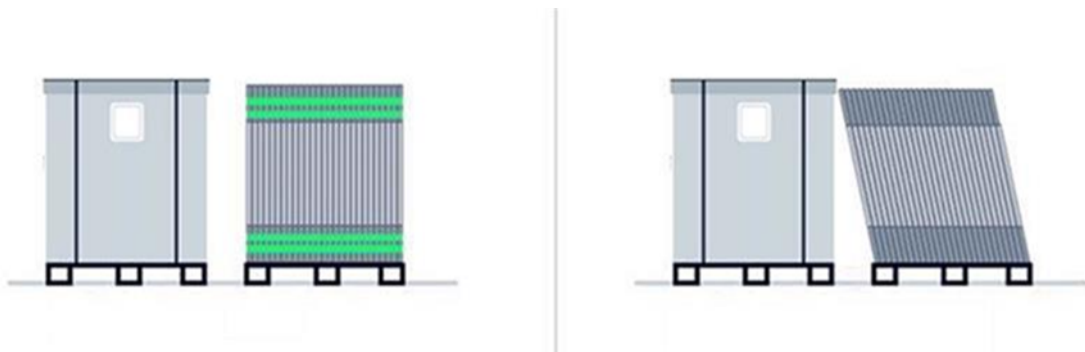

Figure 16: Tilt of the modules leaning on the box for support
- d) Gently push the PV modules so that they can safely lean against the box placed beside for support during step 4 (Figure 16).